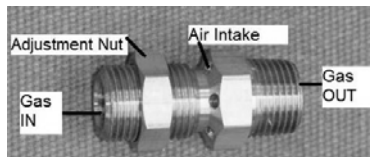

Fig. 2 (Part 1- LP Gas)
- 1) Attach and tighten **Part 1** or **Part 2** to the incoming gas stub. **LP kits will use Part 1; Natural Gas kits will use Part 2.** **IMPORTANT: LP Kits use air mixer orifice Installation (Part 1): Install as shown in Figure 2.**